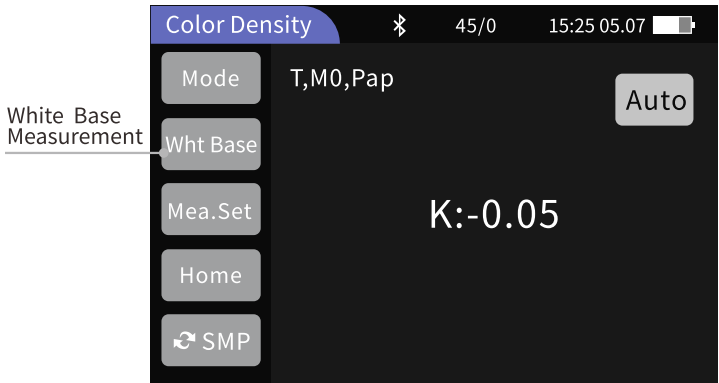

Figure 9 Standard Color Density Interface-2
- 3. Color Space/White Base: Displays the current color space; tap to edit (default is CIE Lab). If the selected mode is optical density or another mode, it displays as "White Base"(Figure 9).